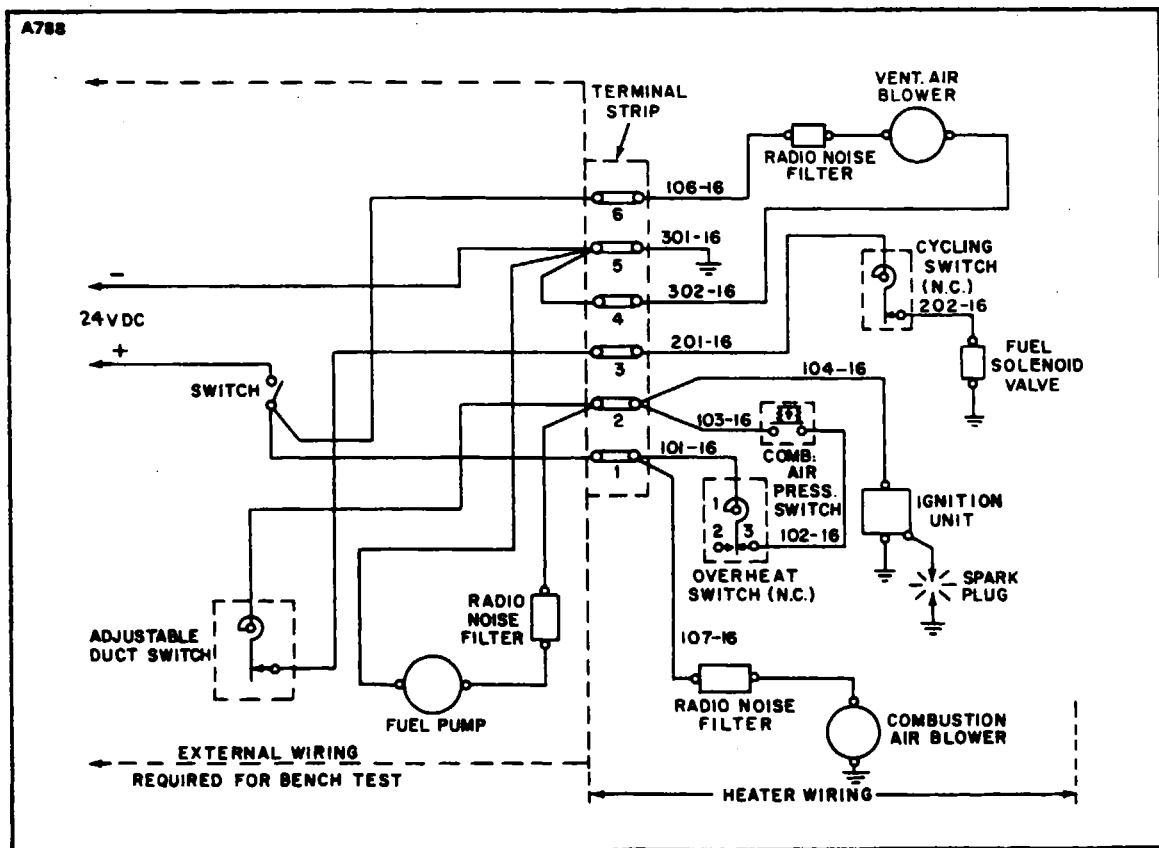

Figure 13-50. Wiring Connections for Heater Operation Test
- c. Connect components and heater as outlined in the wiring connection diagram, Figure 13-50. The power supply switch should be open.